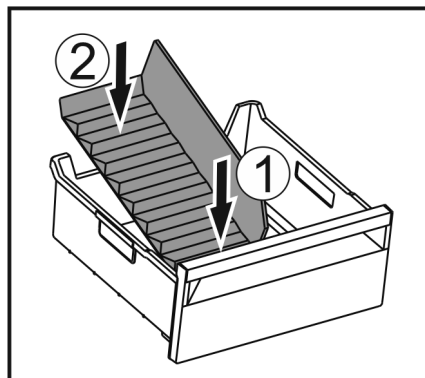

Fig. 191
- Insert the front part of the ice compartment divider. Fig. 191 (1)
- Lower the rear part of the ice compartment divider to the drawer bottom. Fig. 191 (2)